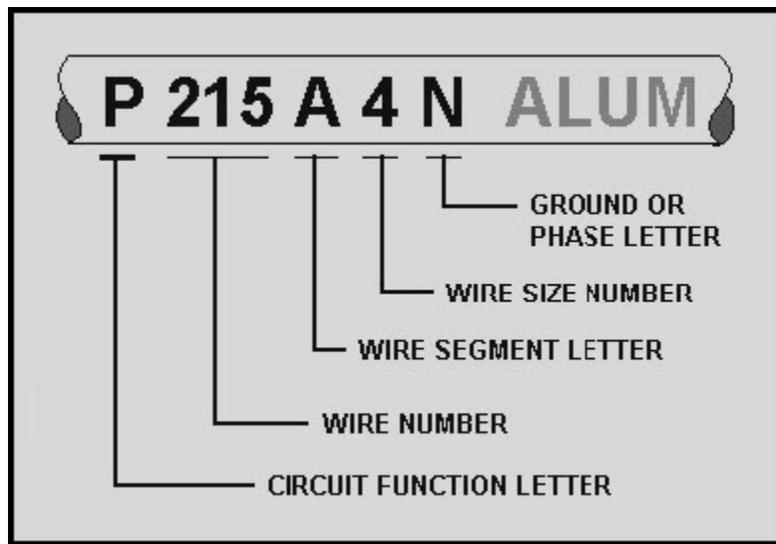

Figure 3-3 Aircraft wire marking
All aircraft wiring is identified on wiring diagrams exactly as the wire is marked in the aircraft. Each wire is coded by a combination of letters and numbers (figure 3-3) imprinted on the wire at prescribed intervals along the wire run.
Look at figure 3-3. The circuit function letter (P in this example) identifies the basic function of the circuit concerned. The letter P indicates that the wire is in the dc power distribution system of the aircraft. The wire number, 215, indicates that it is the 215th wire in the dc distribution system. The wire segment letter (A) identifies the position of each wire segment of the circuit. The wire segments are lettered in alphabetical sequence and change each time the wire passes through a terminal or connector. For example, after the wire passes through the first terminal or connector, the segment letter A, as in this instance, would change to B.